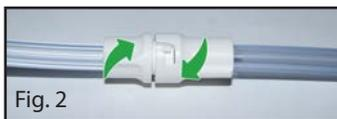

Fig. 2
- Twist the connectors to unlock (Fig. 2).